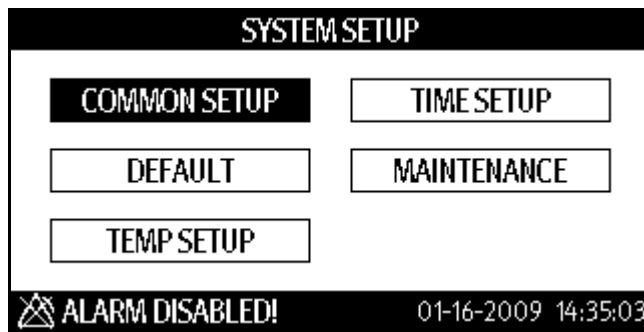

FIGURE 3-2 SYSTEM SETUP Dialog
1. Press  (12) to display the SYSTEM SETUP dialog as shown in FIGURE 3-2.
2. Press  (16) or  (19) to highlight **MAINTENANCE**.